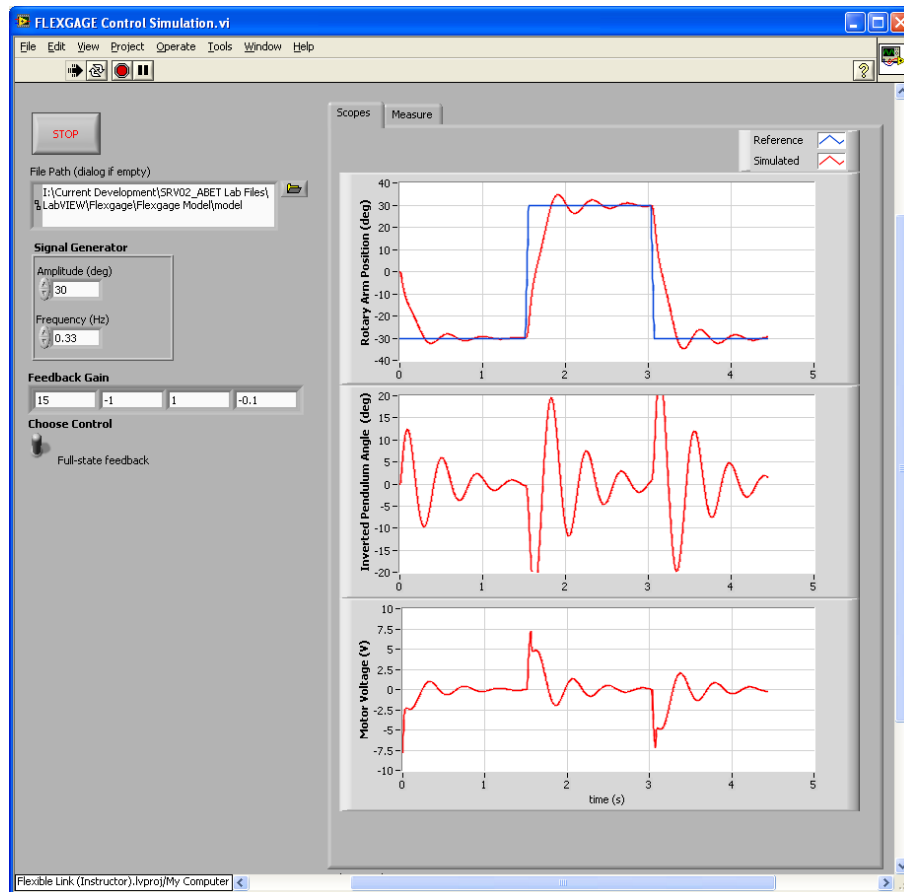

Figure 3.5: VI used to simulate the state-feedback control
The *FLEXGAGE Control Simulation VI* shown in Figure 3.5 is used to simulate the closed-loop response of the Flexible Link using the control gain found in Section 3.4.1.
6. Run the VI. It should look similarly as shown in Figure 3.5 (except using your model and gain). The VI will prompt you to find a model file (unless you selected a model in *File Path* already).